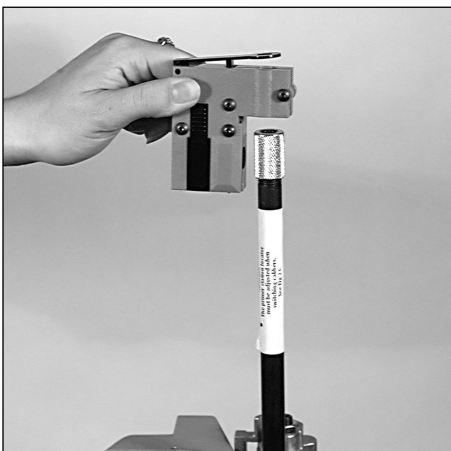

FIG 167
1. Remove the Primer Early Warning System **FIG 167**.